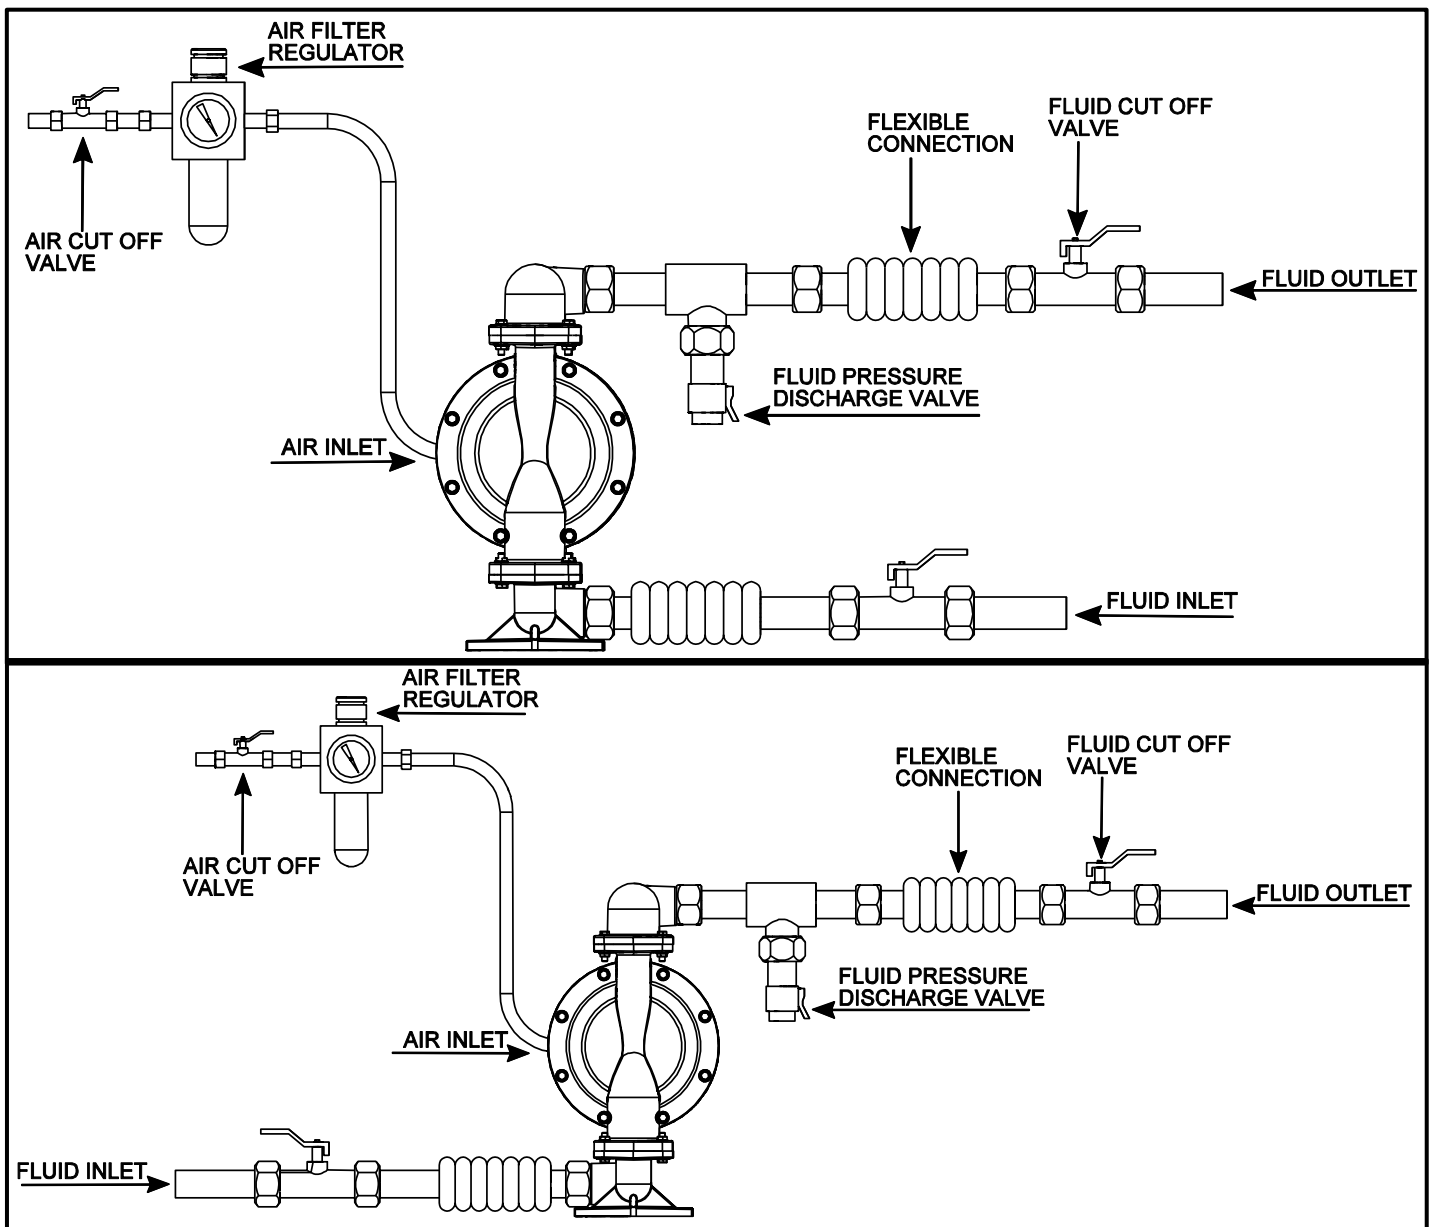

Figure 8a - Typical installation scheme
A typical setup configuration is shown in figure 8a. Further information and consultation on pump setup can be provided by your Ran Pump distributor.
- 1- Refer to the Figure 8a for the connection scheme. Fix these accessories to the wall or to a bracket. The air line feeding the accessories must be grounded.